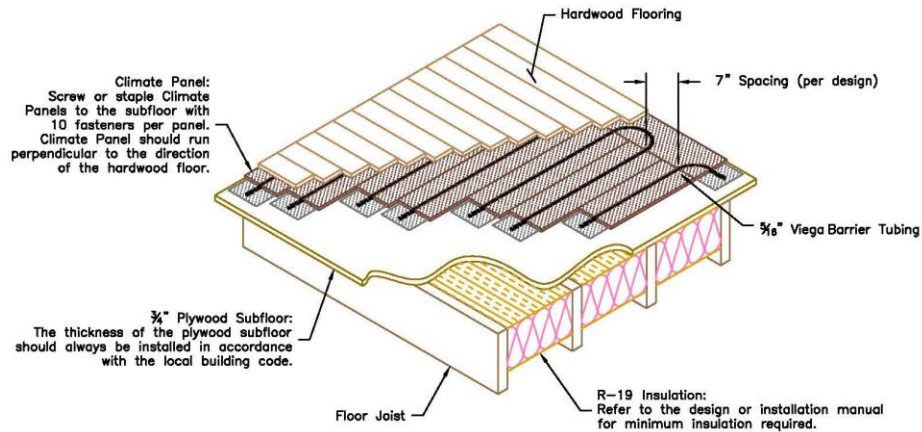

Figure 1 Climate Panel – Joist Subfloor - Hardwood
**General:** Viega LLC tubing and fittings must be manufactured, identified and installed in accordance with this listing, the applicable codes and the manufacturer's published installation instructions. Manufacturer's published installation instructions must be furnished to the code official. Installation must conform to the requirements of the applicable code and is subject to approval by the code official having jurisdiction. The outer and aluminum layers of PureFlow FostaPEX® tubing must be removed with a tool supplied by Viega LLC before a pipe/fitting joint is made. Installation and design of the heating system for each type of construction must conform to the manufacturer's instructions and Chapter 12 of the IMC or Chapter 21 of the IRC and is subject to approval by the code official. The system must be installed by Viega LLC-trained installers. Mounting brackets and installation hardware are provided by Viega LLC. Horizontally laid pipe must be secured in such a manner that temperature-induced expansion and contraction are accommodated. Minimum bending radius is 8 times the outside tube diameter of the PEX tube. The outside tube diameter is the nominal diameter plus  $\frac{1}{8}$  inch (3.2 mm). Tubing must be protected from prolonged exposure to direct sunlight or fluorescent lighting and must be protected from physical damage with an oversized sleeve at structural mass penetrations and when the tube is uncovered. Typical installation details are shown in Figures 1 – 10.
**Climate Panel Floors:** After the panels have been laid, the tracks must be vacuumed of debris and a bead of approved silicone sealant (e.g. Viega Groove Tube heat transfer adhesive) must be placed in the track prior to installation of the PEX tubing. Batt insulation must be installed beneath the subfloor in the joist cavity. See Figures 1.